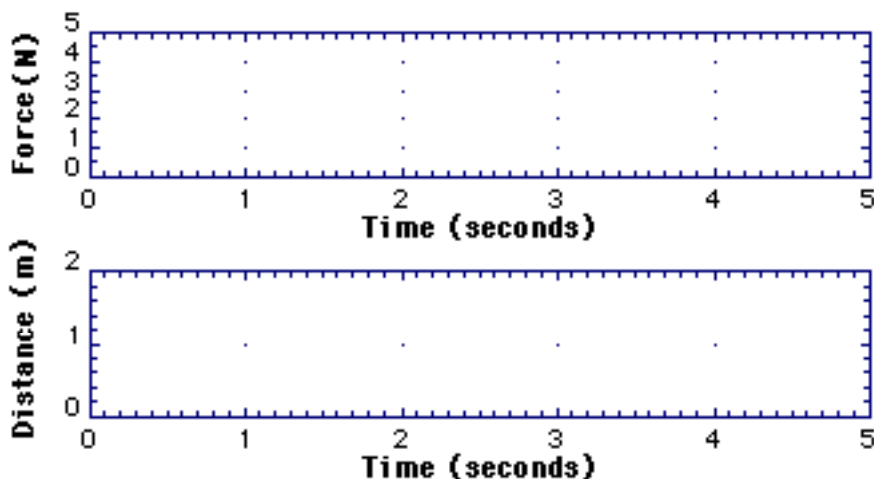

Figure 13. Spring graph format for Activity 4
- **Open...** the file **SPRING** in the **Lab 2** folder. A graph like that shown in Figure 13 should appear on the screen.